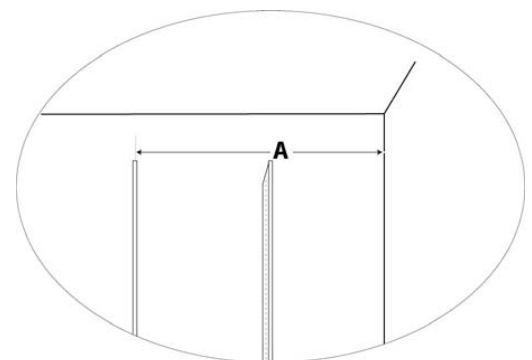

Fig. 3
2. Whether or not your top shelf will go above hanging or floor-mounted towers, with or without cammed shelves across the top, position the 4 foot level across a back wall against a corner to establish the location of the shelf and pole bracket. (See Fig. 3.)